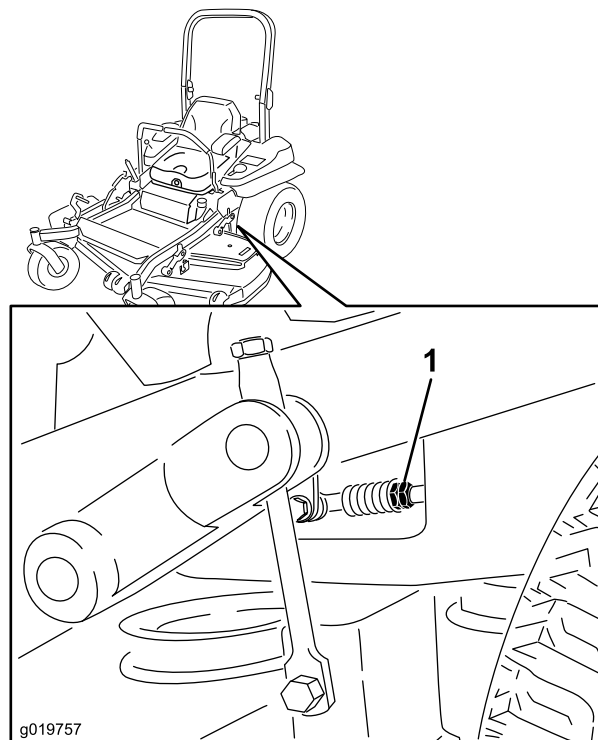

Figure 87
7. Bring the motion control levers into the neutral position. Adjust pump control rod lengths by rotating the double nuts on the rod in the appropriate direction until the wheels slightly creep in reverse (Figure 87). Move the motion control levers to the reverse position and while applying slight pressure to the lever allow the reverse indicator springs to bring the levers back to neutral. The wheels must stop turning or slightly creep in reverse.